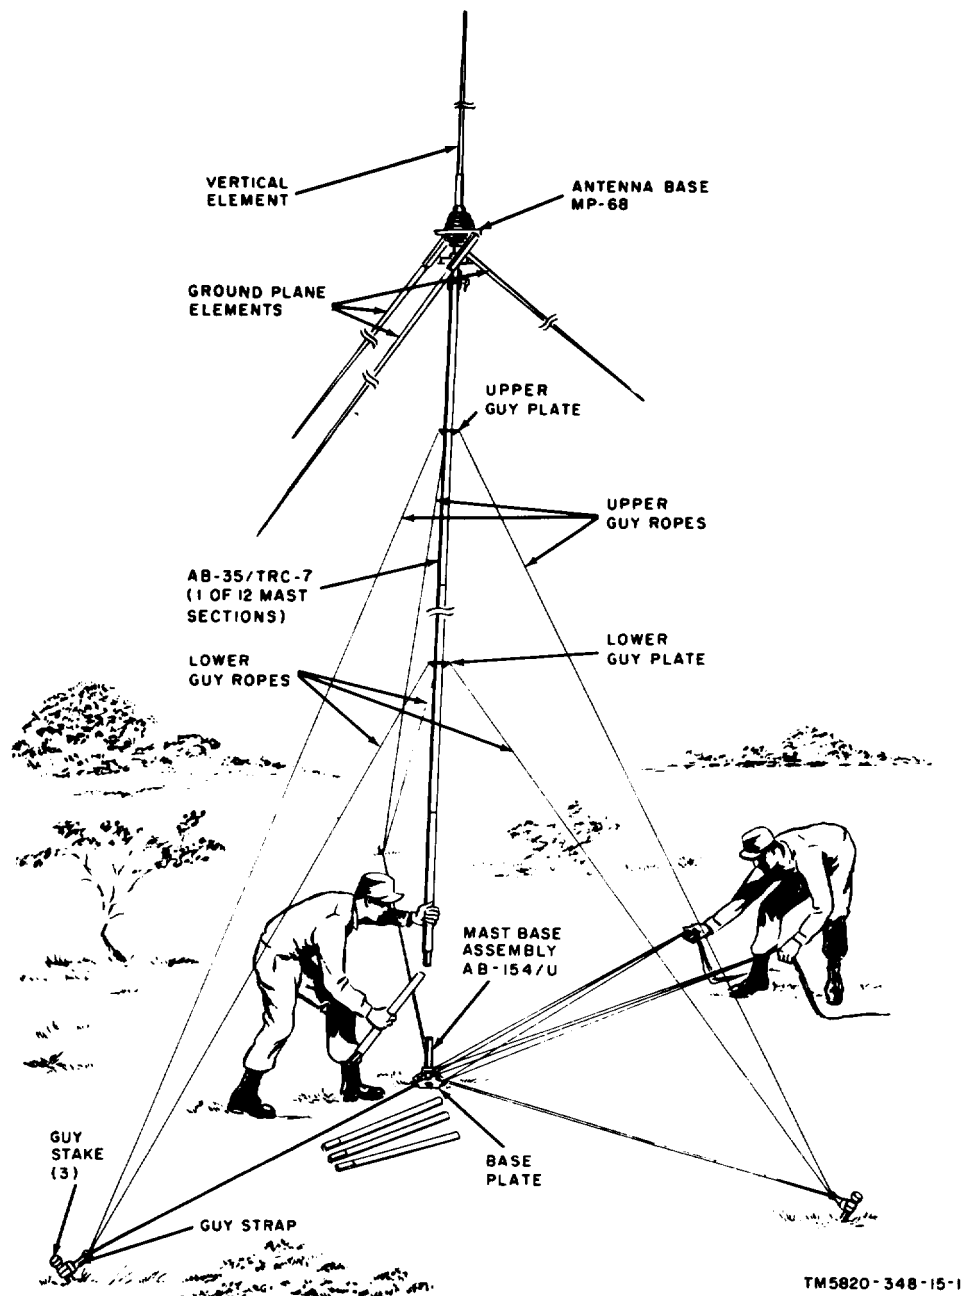

Figure 2-8. Antenna Equipment RC-292, partially assembled, using vertical erection.
d. Tie the flexible end of each of the three guy straps around the three guy stakes just driven. Use a cowhitch (fig. 2-8), so that tension on the metal ring will hold the guy straps securely.
g. Continue to raise the antenna vertically (fig. 2-8) by adding additional Mast Sections AB-35/TRC-7.